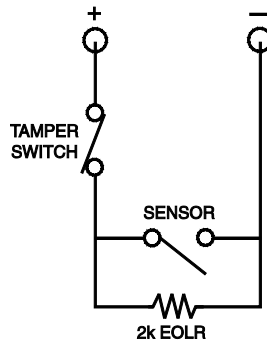

Figure 3-13: Wiring a Normally Open Sensor Loop for Tamper Supervision
- If you are using a normally open sensor, the tamper switch must be normally closed. Refer to *Figure 3-13* for the wiring configuration.